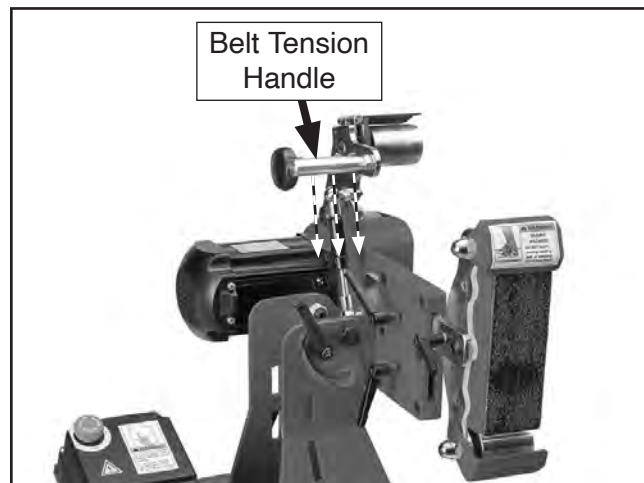

Figure 11. Direction to push belt tension handle.
7. Push belt tension handle (see **Figure 11**) toward frame tilt lock handle to compress gas strut.